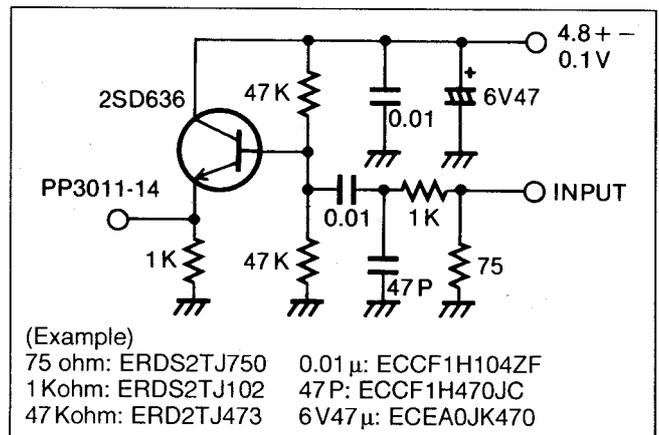

Fig. E9
- Note: 1. Connect the Service Circuit as shown in Fig. E9.